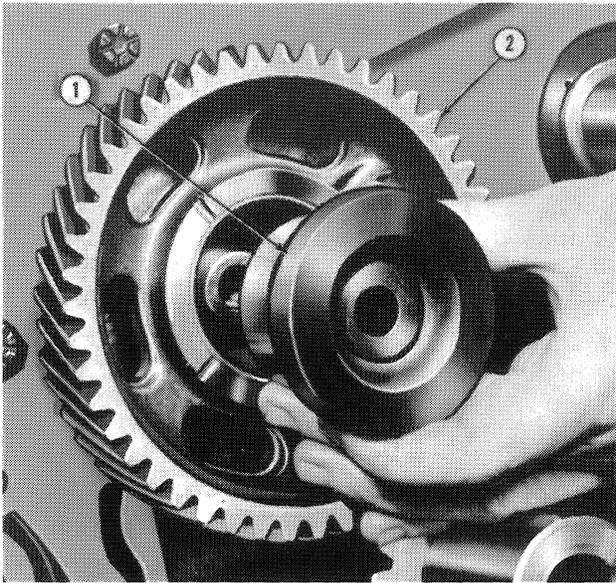

Figure 26
2. Remove the adapter and camshaft drive gear, as shown in Figure 26.